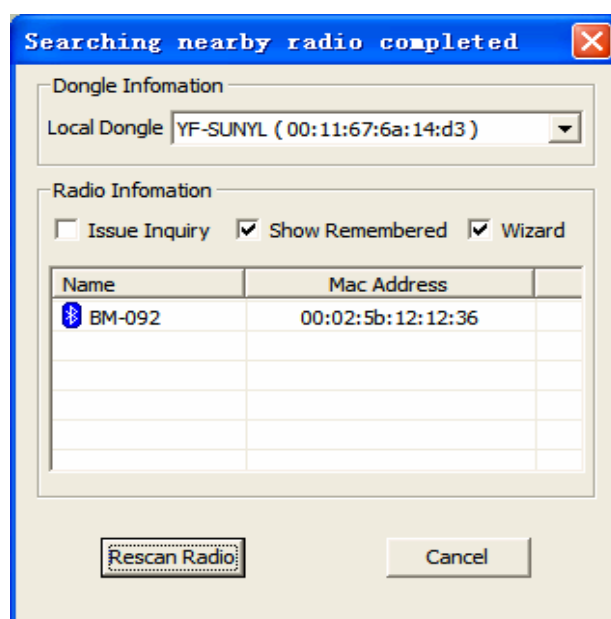

Figure 3-15
(2). Select "Issue Inquiry" and "Show Remembered" in the interface as shown in Figure 3-15. The following operations are the same as the first method.